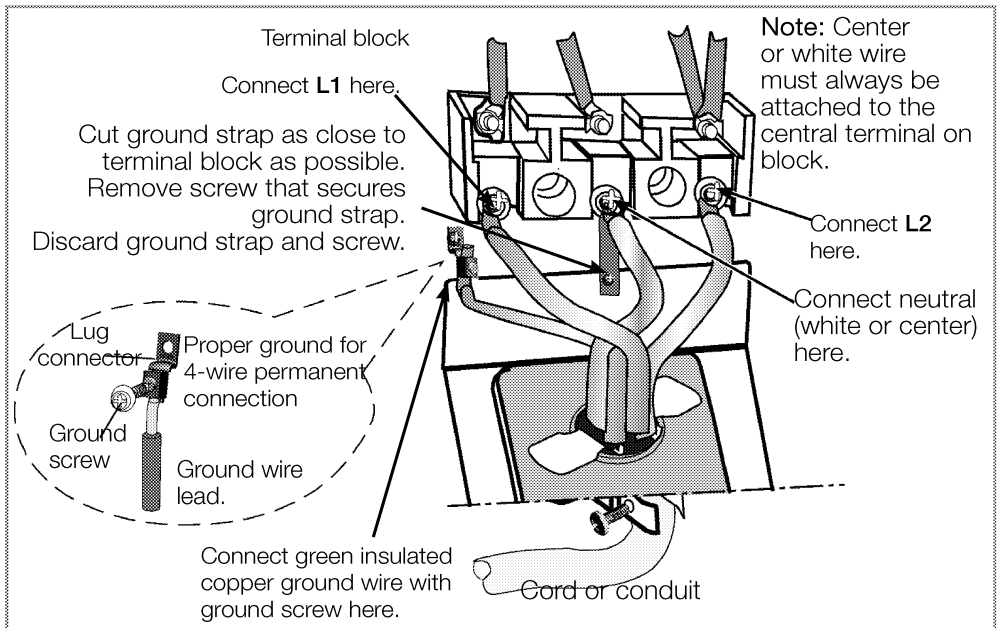

Fig. 9- 4 wire
c- Connect neutral terminal or lead to branch circuit neutral in usual manner (when the appliance is to be connected by means of a cord kit, use 4-conductor cord or conduit for this purpose) See fig.9.
- 4 -See figure 8 for 3 wire power connection and figure 9 for 4 wire connection.
i IMPORTANT: The neutral wire of the supply circuit must be connected to the neutral terminal of the terminal block located in the center of the terminal block. The power leads must be connected to the lower left and lower right terminals of the terminal block. The grounding lead must be connected to the copper grounding lug as shown in the figure 9 above.
3 - Insert the ground lead from the power supply into the copper grounding lug as shown in the Figure 9 above. Tighten screw.